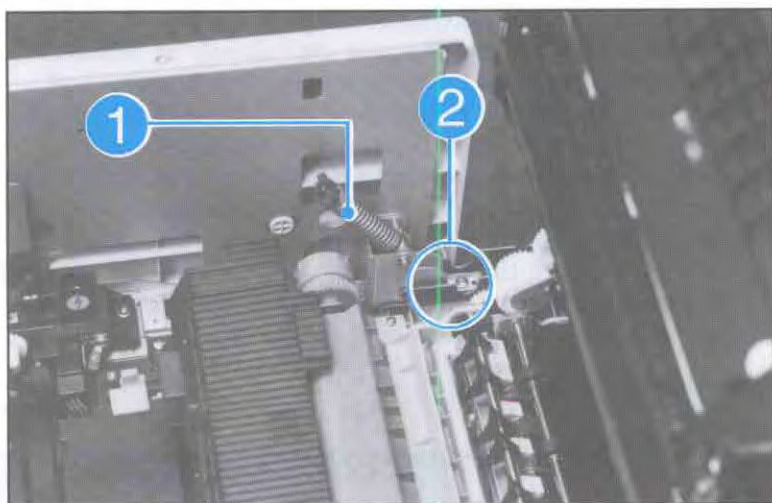

Figure 6-42. Top Cover Assembly (continued)
7. Remove the left and right hinge springs from their slots (see Figure 6-42, callout 1).
8. Remove the (2) screws securing the left hinge plate, and the (2) screws securing the right hinge plate (see Figure 6-42, callout 2).